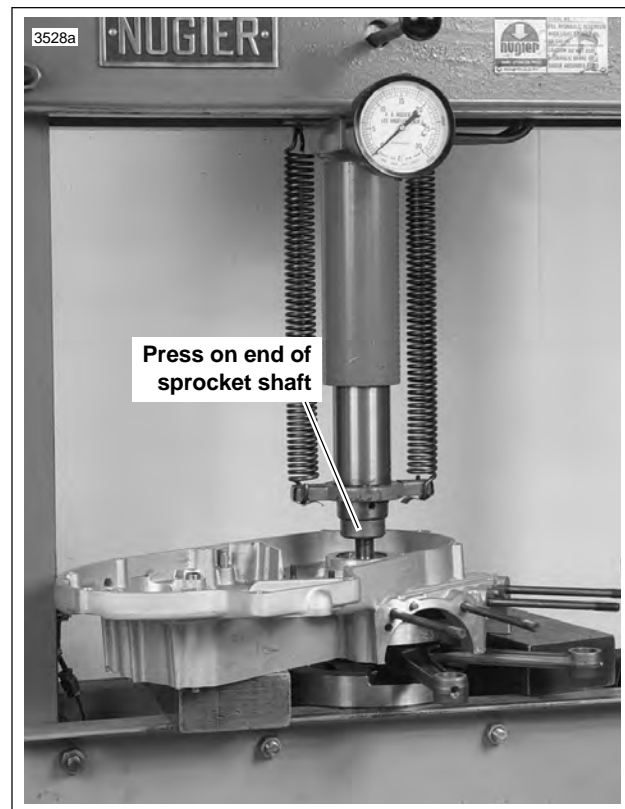

Figure 3-74. Pressing Flywheel from Crankcase
- See Figure 3-74. Mount the left crankcase half and flywheel assembly on a press table, supporting crankcase on parallel bars. Press on end of sprocket shaft with arbor press until flywheel assembly is free from crankcase half. Do not drive flywheel assembly from crankcase half as flywheels may be knocked out of alignment.
See Figure 3-74. If it is necessary to remove either the pinion shaft bearing (11) or sprocket shaft bearing (4 and 9), proceed as follows: